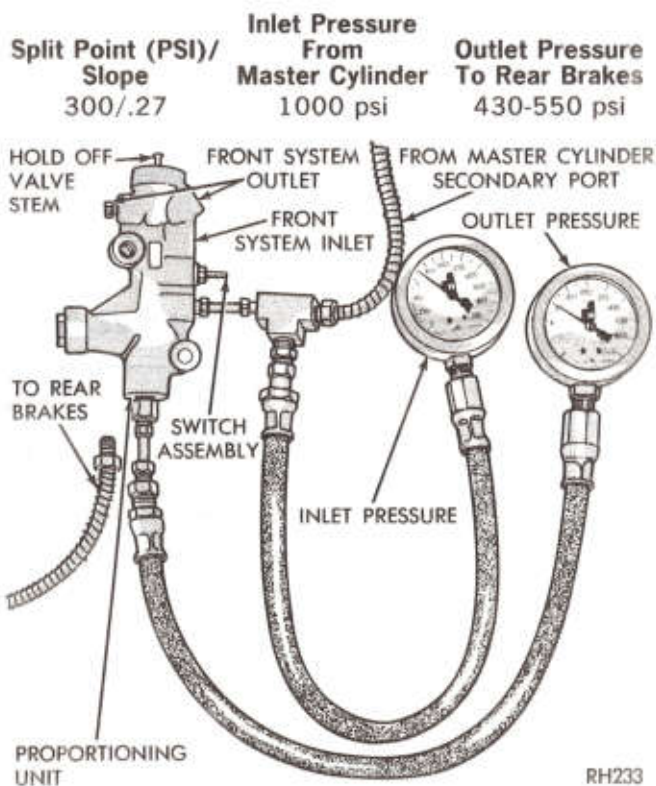

Fig. 3—Testing Proportioning Section of Combination Valve
(1) Install one gauge and "T" of set C-4007A between brake line from master cylinder secondary port and brake valve assembly (Fig. 3).
(2) Install the second gauge of set C-4007A to the rear brake outlet port between valve assembly and the rear brake line. (An adapter tube, made up locally of a 9/16 x 18 tube nut, short piece of brake tube and 3/8 x 24 tube nut will be required to connect the hose to the valve). Bleed the rear brake system.
(3) Have a helper exert pressure on the brake pedal (holding pressure) to get a reading on the valve inlet gauge and check the reading on the outlet gauge. If the inlet and outlet pressures do not agree with the values on the following chart, replace the valve.
(4) Valve assemblies for all models are shipped in the front failed position to improve bleeding. When installing a new valve, bleed the rear brakes first (see Bleeding Brake System in "Service Adjustments", this group). After bleeding both front and rear systems, applying the brakes with moderate force will hydraulically reset the switch and turn off the warning light.